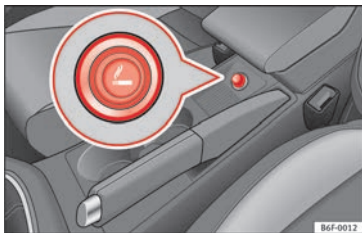

Fig. 161 Lighter.
- Press on the cigarette lighter »» Fig. 161 to activate it »» ⚠.